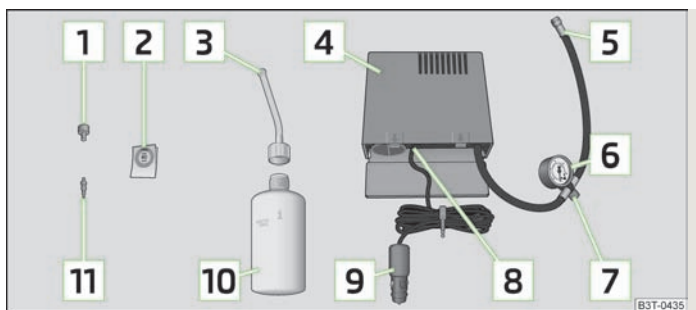

Fig. 180 Components of the breakdown kit
- Stick the sticker  » Fig. 180 on the dash panel in view of the driver.
- Forcefully shake the tyre inflator bottle  » Fig. 180 several times.
- › Screw the tyre inflation hose [5] » Fig. 180 of the air compressor firmly onto the tyre valve.